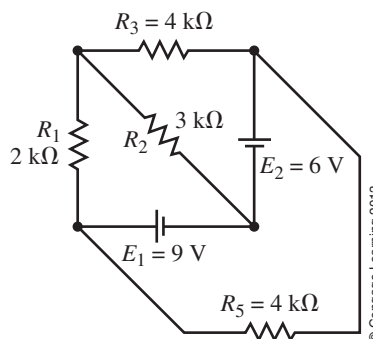

FIGURE 8-87
- Repeat Problem 31 for the network in Figure 8-87.